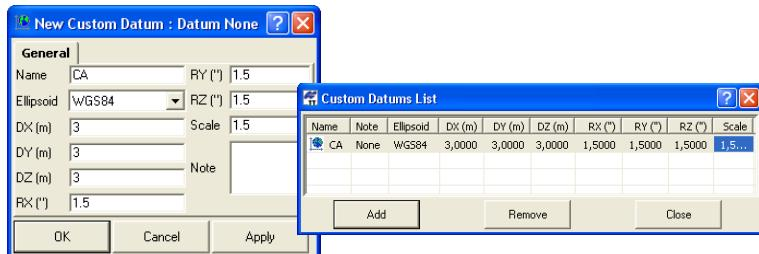

Figure 2-22. New Custom Datum
3. On the **New Custom Datum** dialog box, enter the following information and click **OK** (Figure 2-22). Enter the DX/DY/DZ, RX/RY/RZ, and Scale parameters with respect to the WGS84 datum.